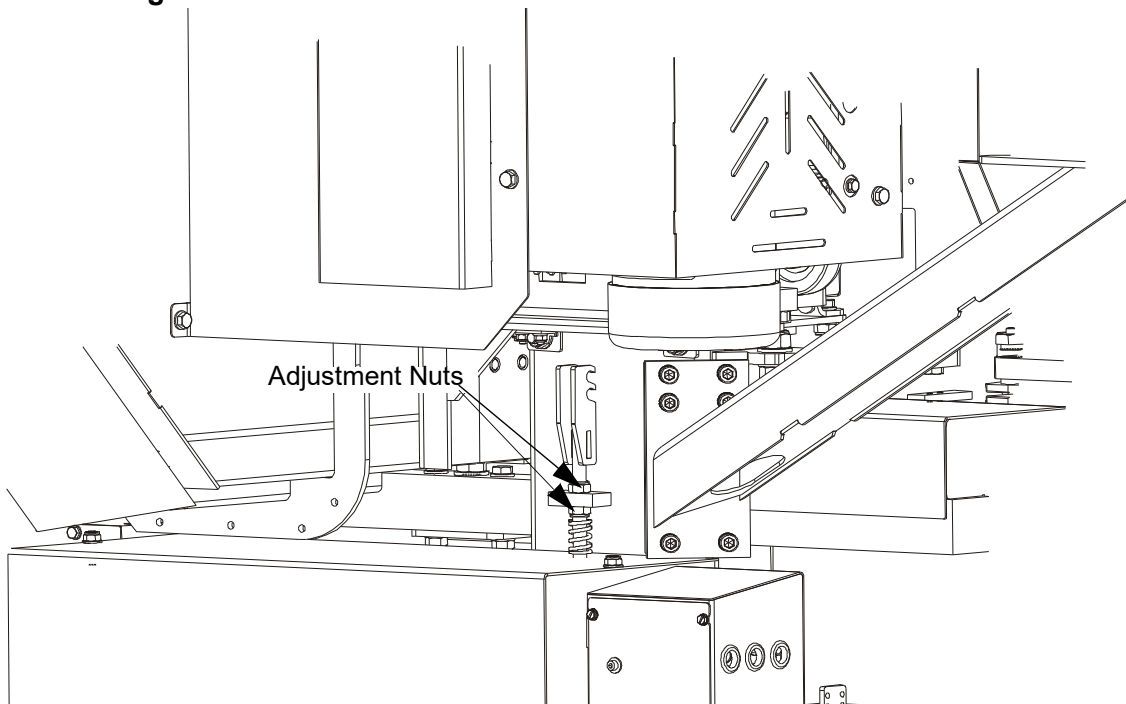

FIG. 5-6
1. Adjust the motor belt tension as needed. To do this, loosen the motor mounting bolts and turn **See Figure 5-6.**